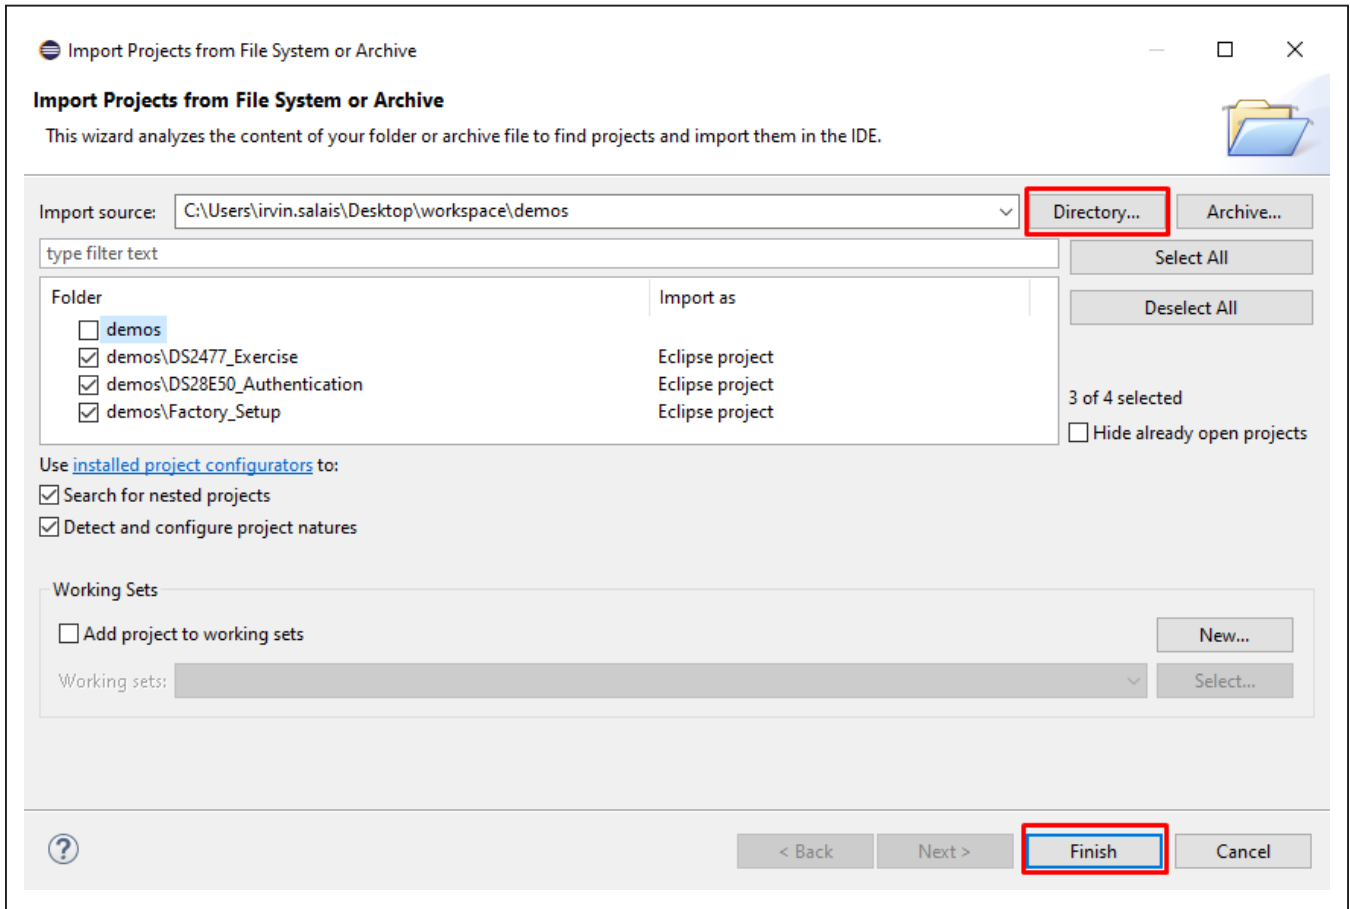

Figure 9. Eclipse Open Projects.
- 9) From the **Import Projects from File System or Archive** dialog box, click **Directory...** button and navigate to the **Demos** folder within the workspace location and click **Finish** as shown in Figure 9.